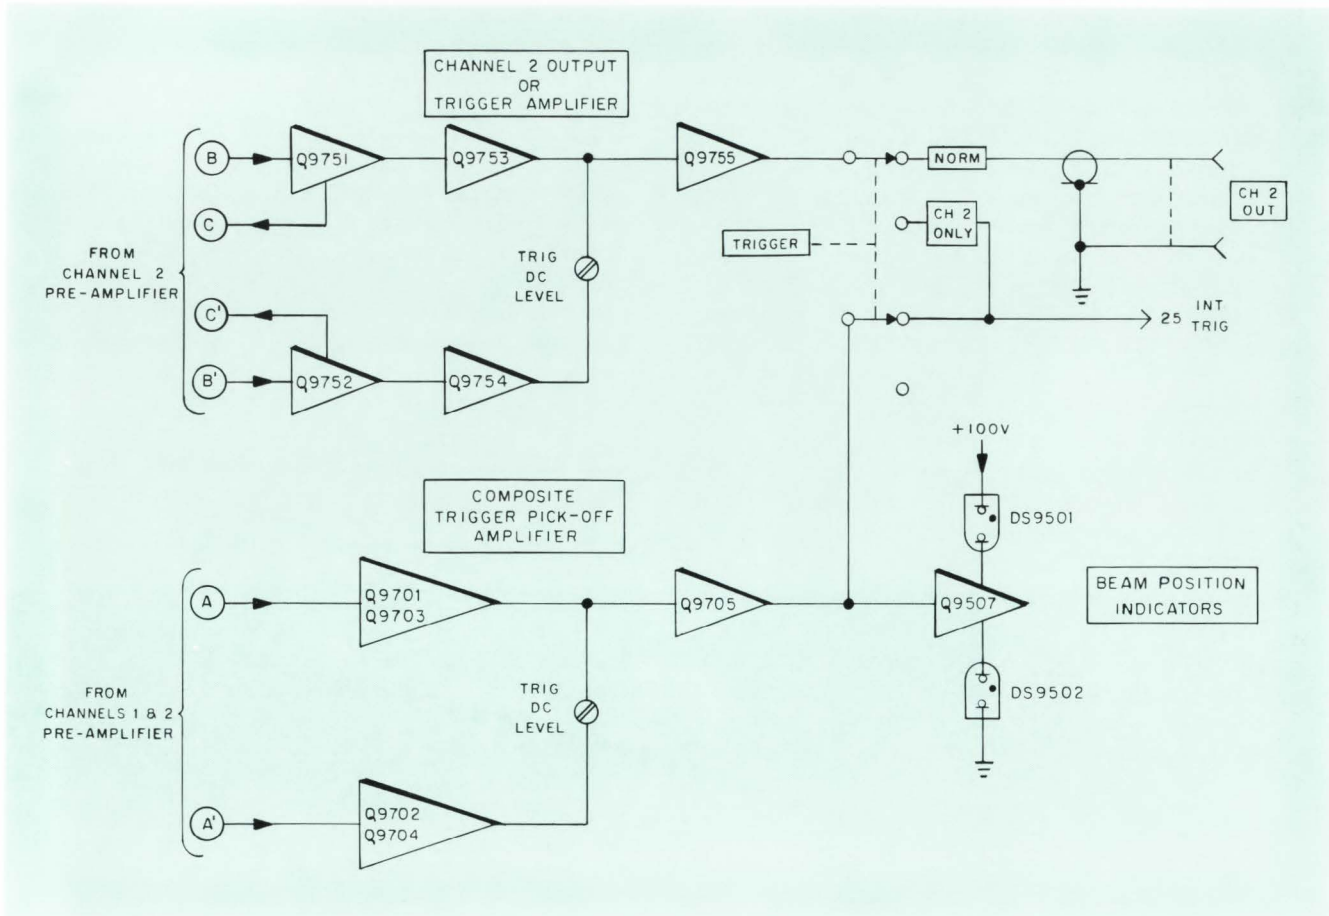

Figure 3-5. Type 76-08 Trigger Amplifiers, Functional Block Diagram
- Figure 3-5. Type 76-08 Trigger Amplifiers, Functional Block Diagram
3-5. TRIGGER PICK-OFF AMPLIFIER (Figure 3-5)